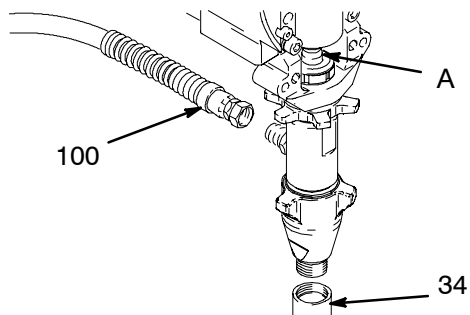

Fig. 15
3. Fig. 15. Cycle pump piston rod (A) to lowest position.
4. Fig. 15. Remove suction tube (34) and hose (100).